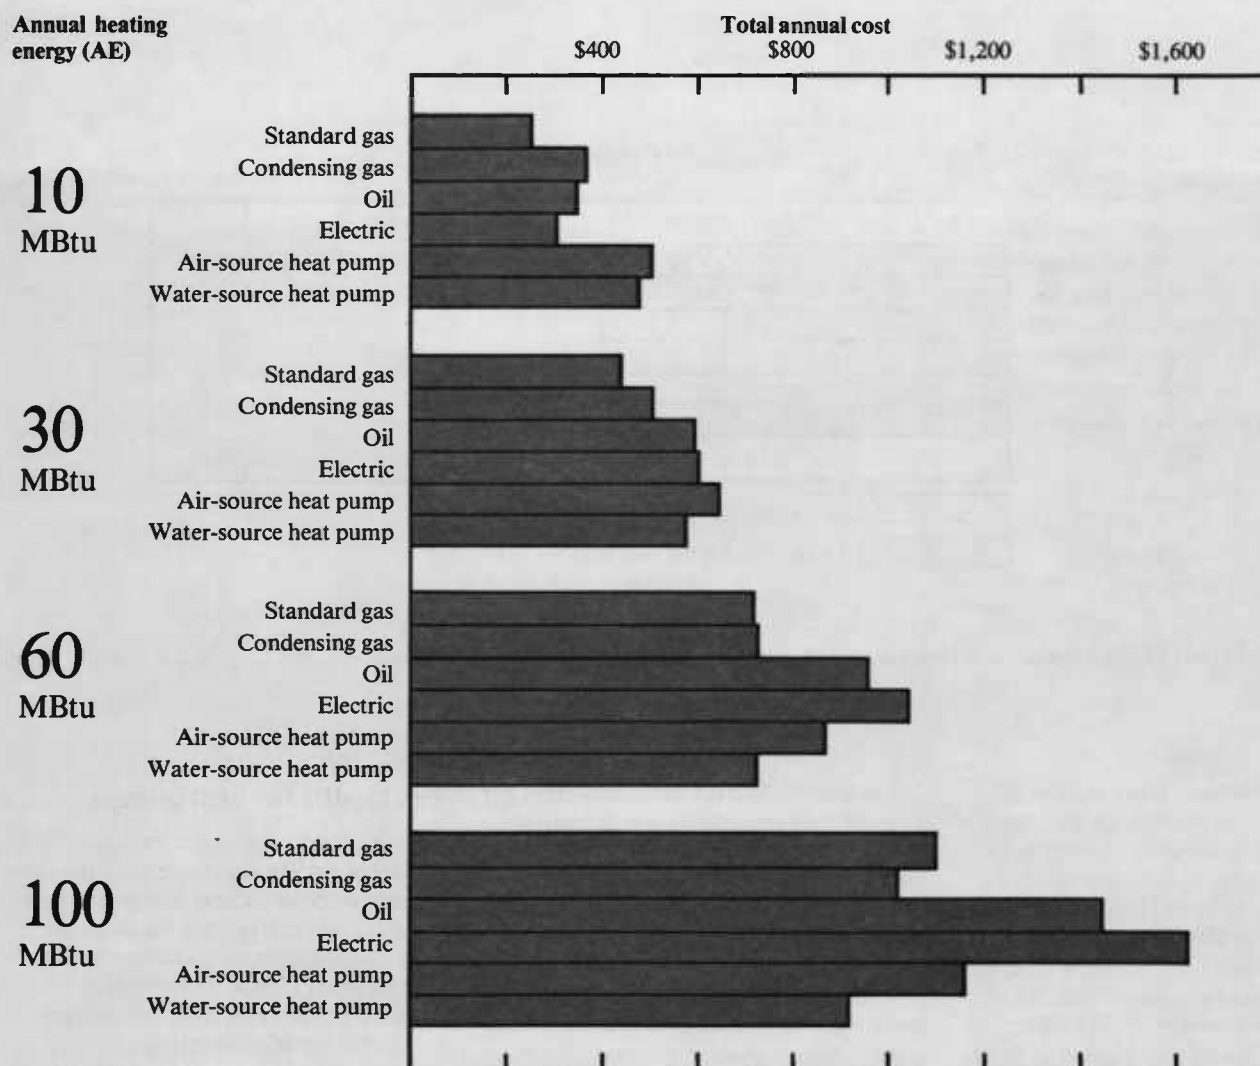
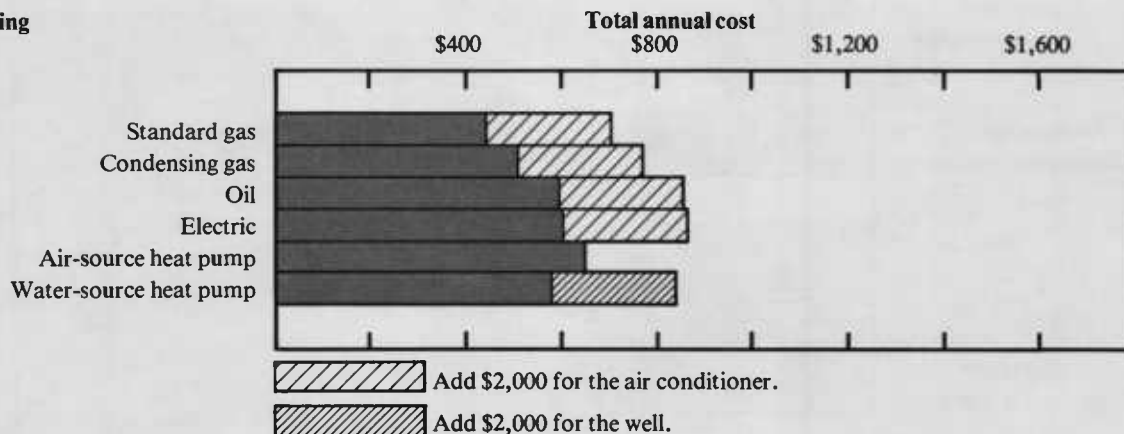

Figure 3a.—Total annual cost for different heating requirements
Figure 3b.—The effect of other initial costs on total annual cost
If we apply the steps in "The Procedure" section (page 12) to the six heating systems, using these assumptions, we obtain the total annual costs shown in figure 3a.
Remember, the total annual cost includes equipment, fuel, and maintenance costs. Total annual costs are shown graphically in figure 3a for each of six heating system options. The costs are grouped for annual heating energy (AE) requirements of 10, 30, 60, and 100 MBtu.
The effect of increasing the initial cost by \$2,000 to include air conditioning and a well is shown graphically in figure 3b. The total annual costs for Options 1, 2, 3, 4, and 6 increase by \$262 (\$2,000 at 10% for 15 years).
The air-source heat pump, which was the *highest* cost option in figure 3a for annual heating energy of 30 MBtu, becomes the *lowest* cost option in figure 3b. The most economical heating system changed because you want air conditioning and do not have a well.
The following procedure shows you step-by-step how to perform an economic analysis for your home. Summarize the results on a worksheet (page 14) as you complete each step. We used this procedure and the assumptions in the "Economic analysis" section (page 8) to produce the results shown in figures 3a and 3b.